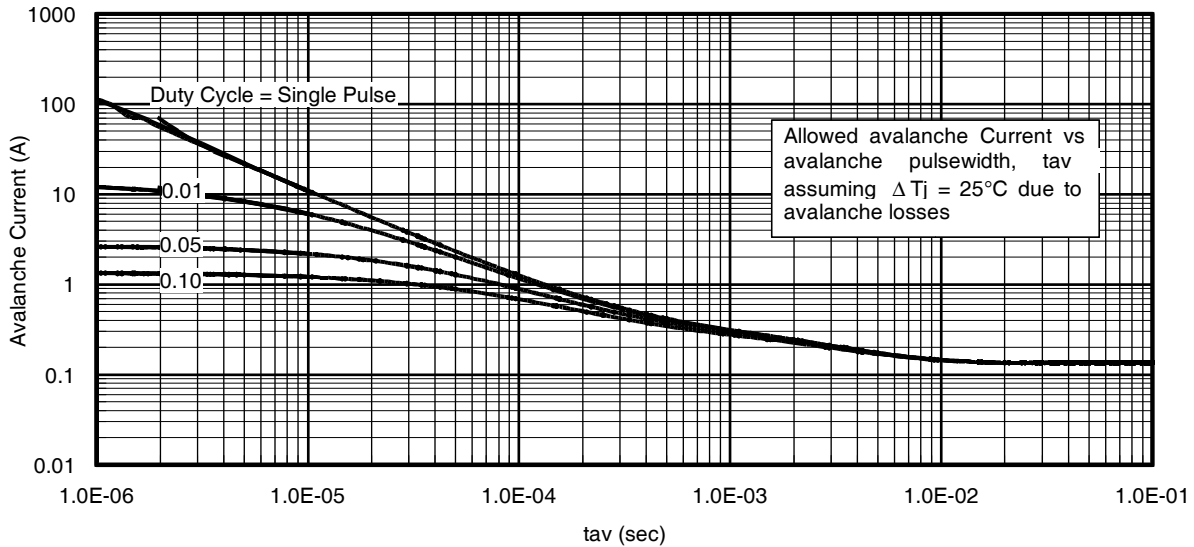

Fig 14. Typical Avalanche Current Vs. Pulsewidth
- ① Repetitive rating; pulse width limited by max. junction temperature.
- ② Starting $T_J = 25^\circ\text{C}, L = 1.62\text{mH}, R_G = 25\Omega, I_{AS} = 11A$.
- ③ Pulse width $\leq 400\mu s$; duty cycle $\leq 2\%$.
- ④ R_θ is measured at T_J of approximately 90°C .
- ⑤ Limited by T_{jmax} . See Figs. 14, 15, 17a, 17b for repetitive avalanche information.
Notes on Repetitive Avalanche Curves , Figures 14, 15:
7. ΔT = Allowable rise in junction temperature, not to exceed T_{jmax} (assumed as 25°C in Figure 14, 15).